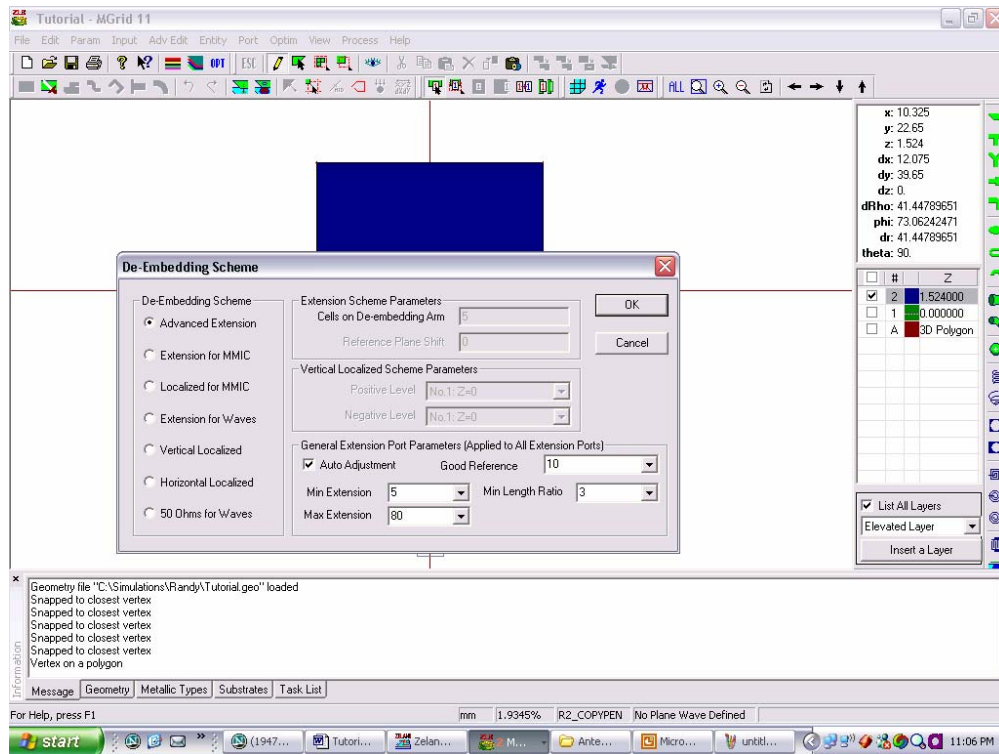
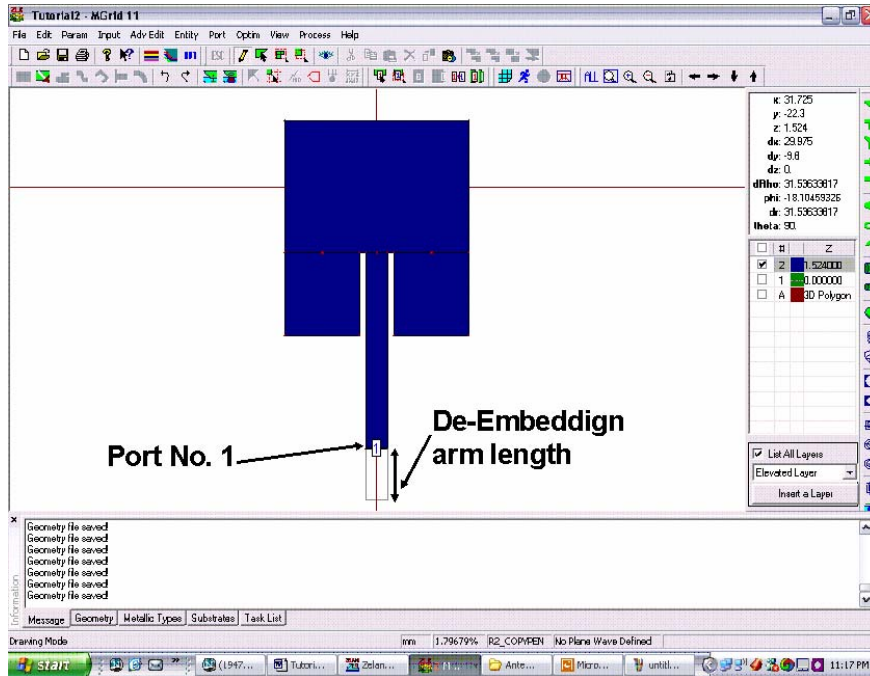

Figure 18.
Figure 19.
- 21) Press the “Define Port Button” (  ). The menu shown in Figure 18 pops up. Choose “Advanced Extension” in the De-Embedding Scheme field. Leave the rest of the fields unchanged at this stage and press the OK button. It seems that nothing has happened. However, we have entered the port definition mode. The next step is to move the mouse cursor to the lower edge of the microstrip line and click on it. It defines a port at that location. Note the number that is assigned to that port. We are still in the port selection menu. However, in this structure we only need one port and there is no need to define any additional port. Press the Esc key to exit this mode. The layout should look like the one shown in Figure 19.